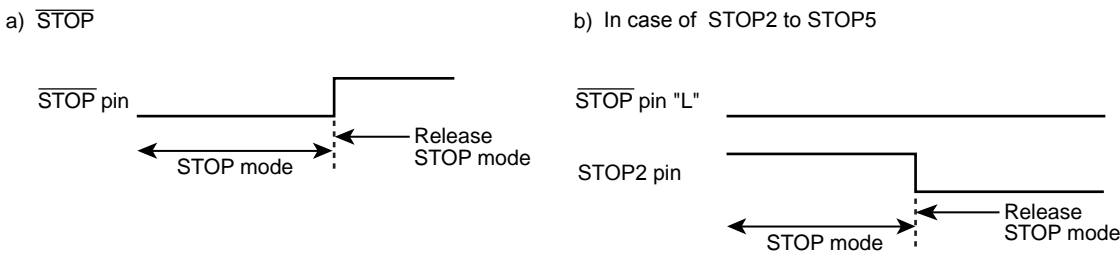

Figure 18-3 Priority of STOP pin and STOP2 to STOP5 pins
- Note 6: When the STOP mode is released by STOP2 to STOP5 pins, the level of $\overline{\text{STOP}}$ pin should hold "L" level (Figure 18-3).